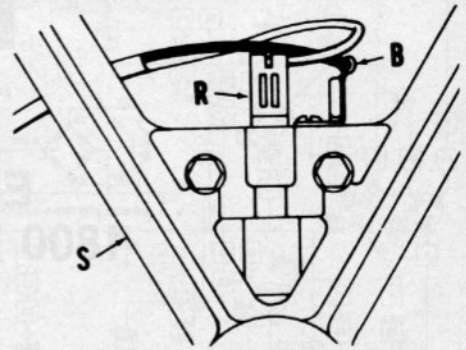

Fig. HL7-3—Red (R) number "15" brush wire and black (B) number "14" brush wire are connected and routed as shown.
shown in Fig. HL7-3 and wires must be routed behind rotor support (S) to prevent interference with fan.